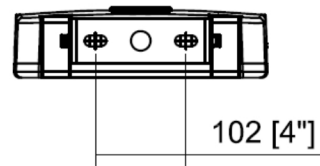

Fig. 6
2. Use expansion bolts to secure the fixture on mounting surface, Refer to hole bitmap Fig. 6.